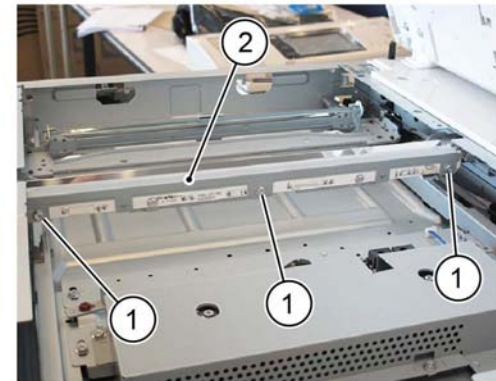

Figure 1 LED bracket removal
4. Remove the LED bracket, Figure 1:
- a. Remove three screws (1).
- b. Remove the LED bracket (2).